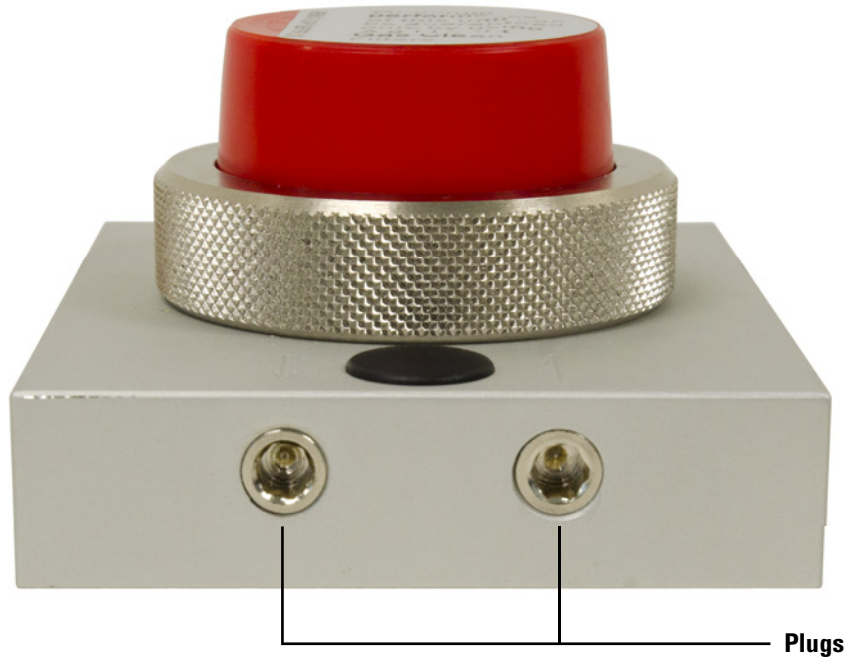

Figure 7 Plugs installed on the end of the connecting unit
- c Install the plugs on the end of the connecting unit using a 5-mm hex wrench (Figure 7).